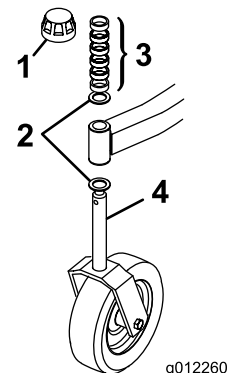
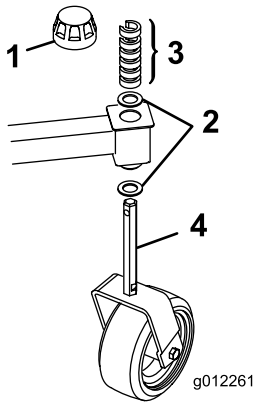

Figure 2
Figure 3
1. Remove the tensioning caps from the spindle shafts and slide off the spacers and thrust washers (Figure 2 & Figure 3).
in the Adjusting the Height of cut section . Slide a thrust washer onto the spindle. Push the large castor spindle through the front castor arm and the small castor spindle through the rear castor arm. Install another thrust washer and the remaining spacers onto the spindle and install the tensioning cap to secure the assembly (Figure 2 & Figure 3).